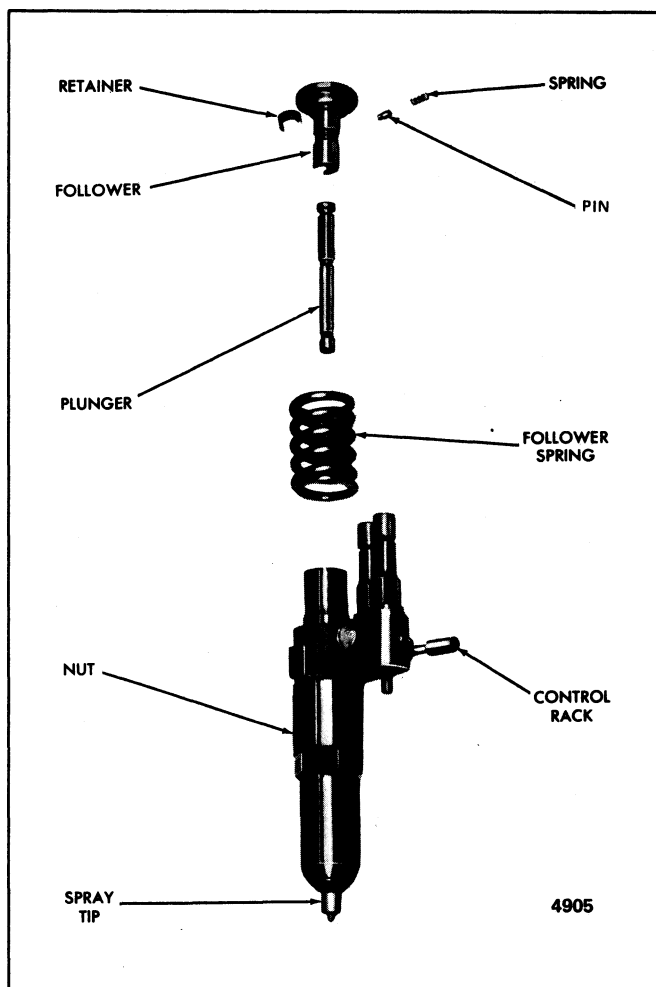

Fig. 28 - Injector Plunger, Follower and Relative Location of Parts
- 25. Refer to Fig. 28 and slide the head of the plunger into the follower.